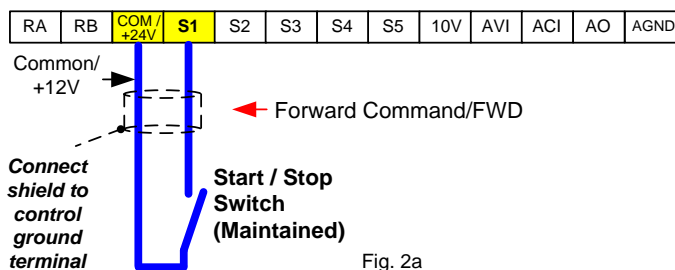

Fig. 2a
- Remove the protective covers (See L510 User Manual) and make the connections as shown below in Fig. 2a.